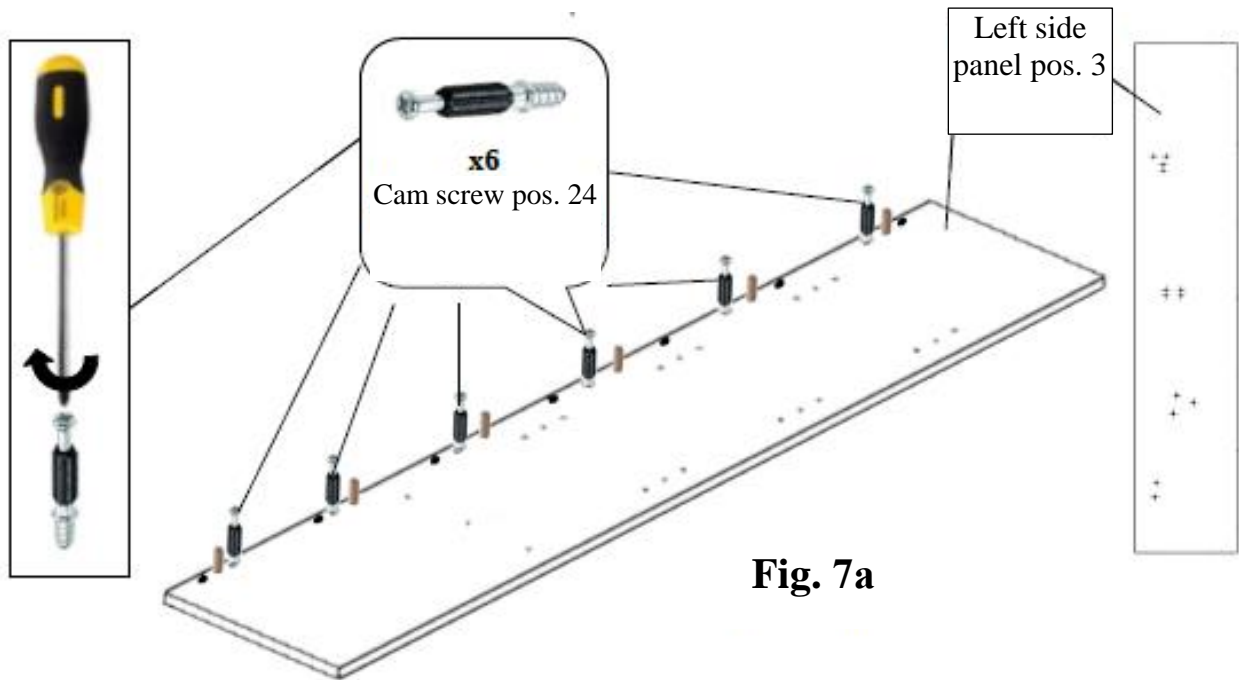
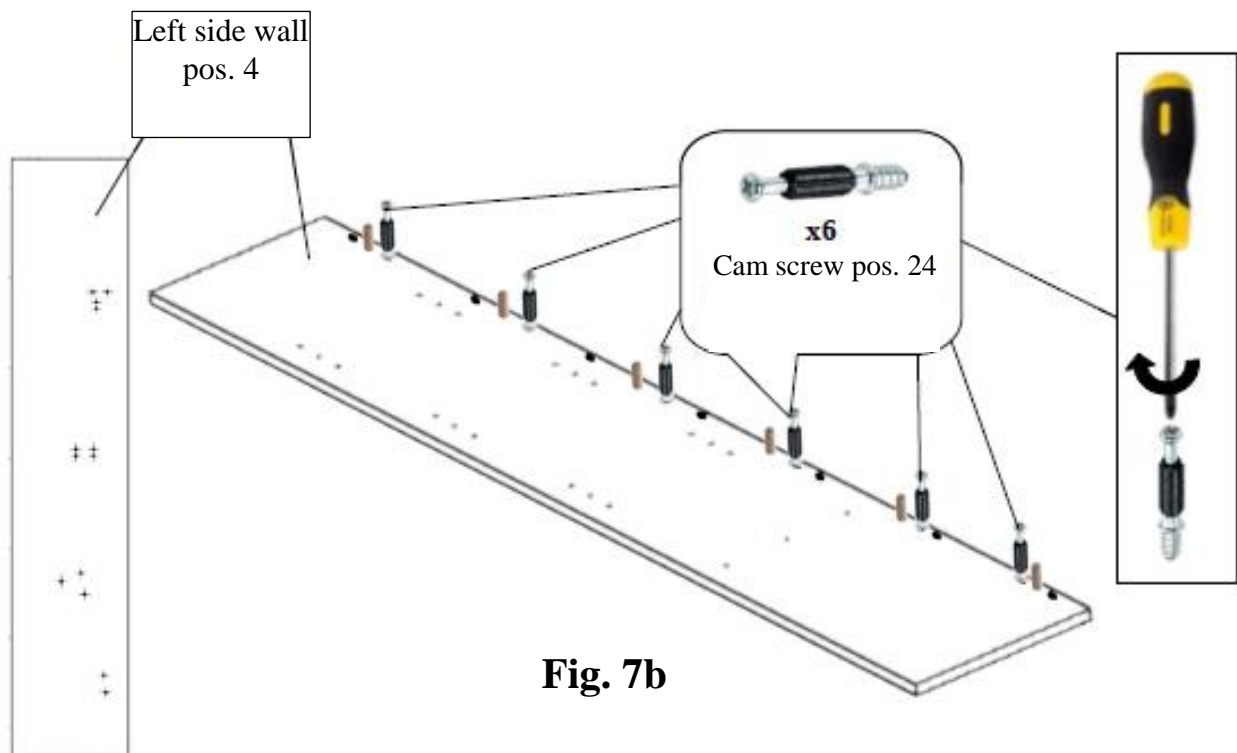

Fig. 7a
Fig. 7b
Using Phillips screwdriver PZ2  screw in the expansion bolts (pos. 24)  in the left side panel (pos. 3) (**Fig. 7a**) and right side panel (pos. 4) (**Fig. 7b**) until tight.
**HOLES TO BE USED FOR EXPANSION BOLTS ARE STRICTLY AS SHOWN IN FIGURES 7a AND 7b. SCREW CLOCKWISE.**